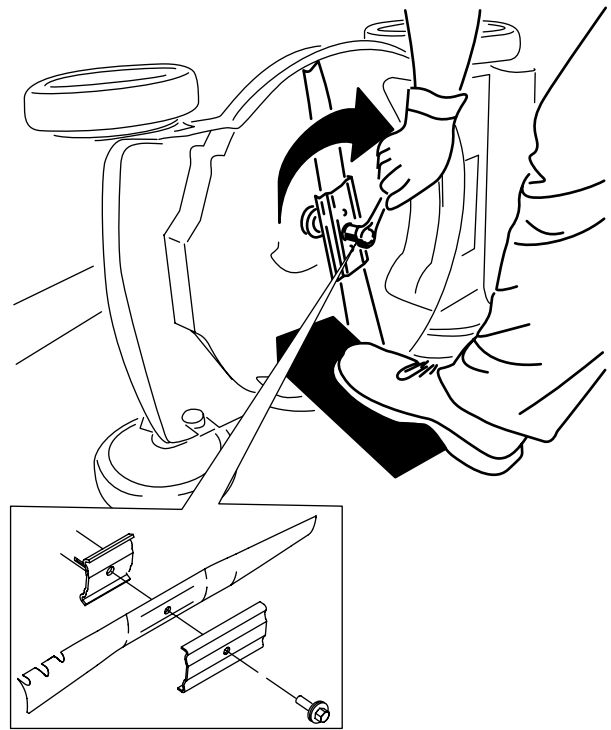

Figure 29
5. Install the new blade and all mounting hardware (Figure 29).